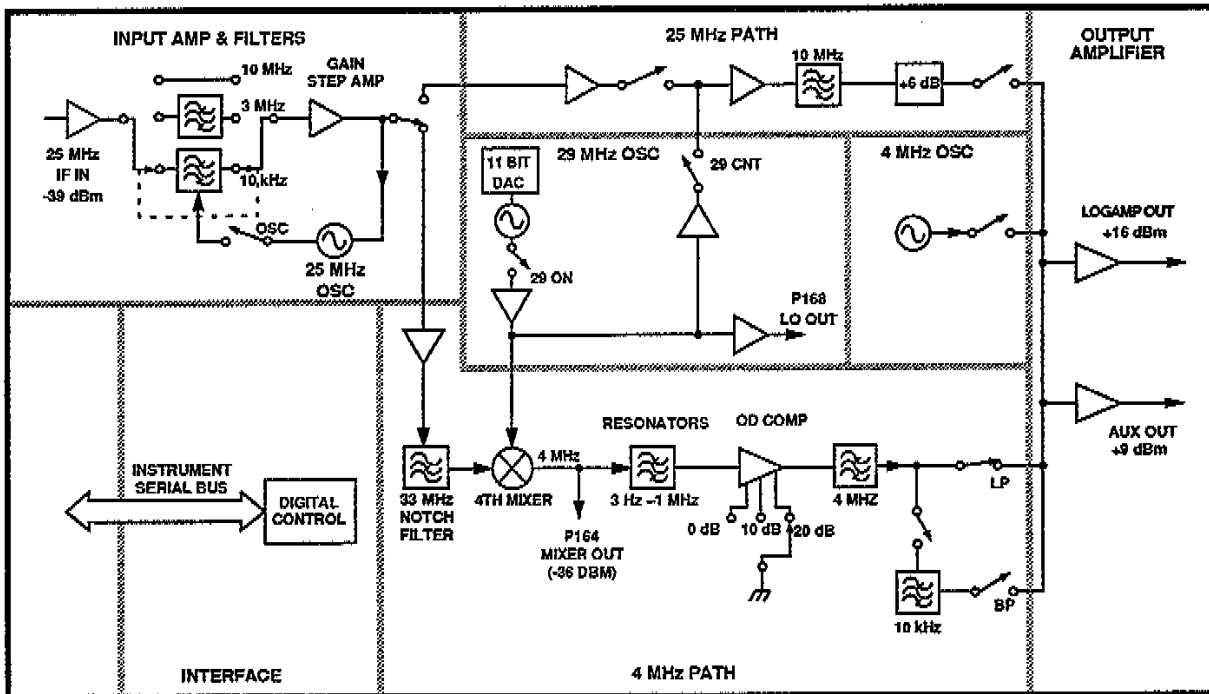

Figure 5-5. A16 Variable Resolution Module Block Diagram.
The A16 Variable Resolution (VR) module amplifies and filters the incoming 25 MHz IF signal from the 3rd Converter. When conversion is selected (narrower twelve bandwidths), the VR circuits also convert the incoming IF signal to the 4 MHz fourth IF signal and filter the signal through selected bandwidth resonators to produce an IF signal bandwidth of 3 Hz to 1 MHz. The VR circuits also produce a 4 MHz signal for calibrating the Log Processor during self-correction. See Figure 5-5. The VR circuit consists of the Input Amplifier and Filters, 25 MHz path, 4 MHz path, 29 MHz Oscillator, 4 MHz Oscillator, Output Amplifier, and Interface.
See Figure 5-5. The 25 MHz path is used with the two widest bandwidths, 3 MHz and 10 MHz. The IF signal from the Gain Step Amplifiers is amplified and filtered through this path. The path is also used by the 29 MHz oscillator signal to allow the Main Processor to measure the oscillator frequency. The 25 MHz Path consists of two fixed-gain amplifiers, a bandpass filter, and a step-up transformer that produces 6 dB gain.